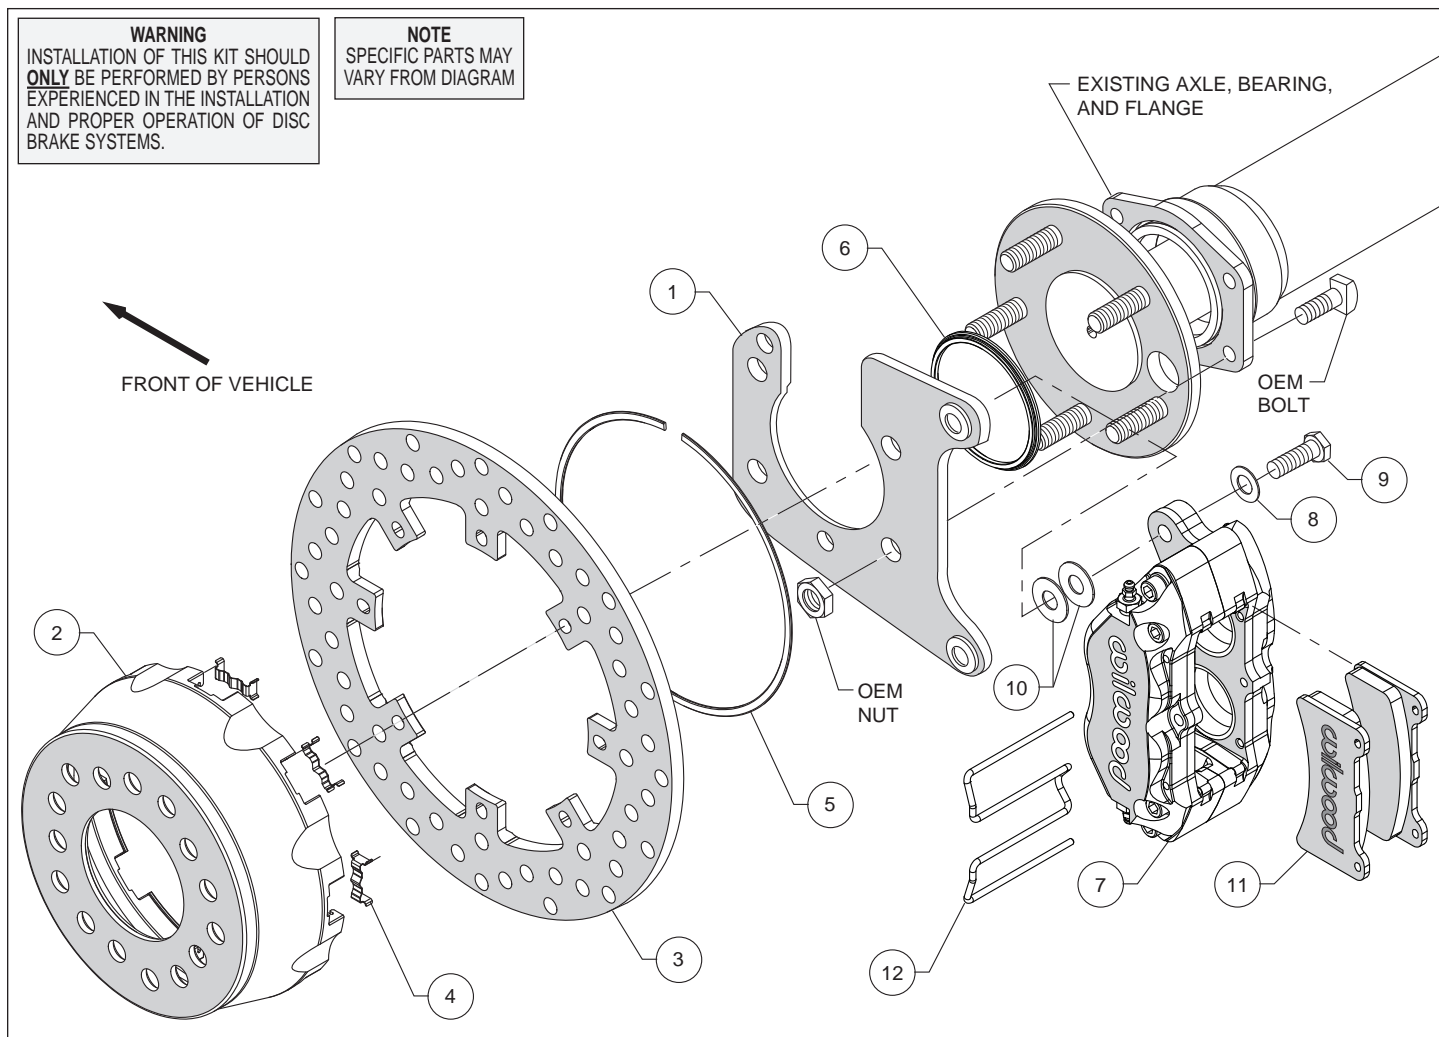
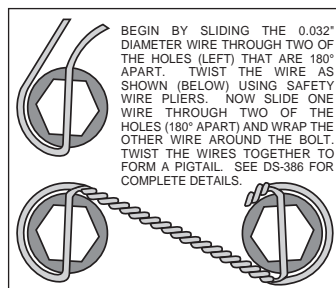
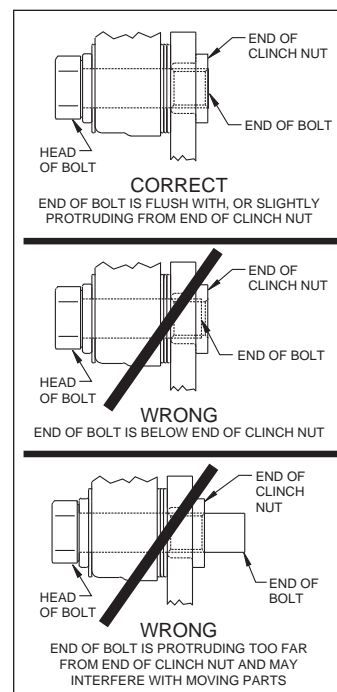

Figure 1. Typical Installation Configuration
Figure 4. Safety Wire Diagram
Figure 5. Clinch Nut Engagement Diagram
**Assembly Instructions** (numbers in parenthesis refer to the parts list and Figure 1 on the preceding pages): **CAUTION:** All mounting bolts must fully engage clinch nuts. Be sure to check that all bolts are either flush or protruding through flanged side of clinch nut after shimming, Figure 5.
- Install the caliper mounting bracket (1), with the slot for the axle pointing upward, to the housing flange using the OEM bolts and nuts, as shown in Figure 1 and Photo 1. Ensure that the heads of the clinch nuts are facing outboard, Photo 1. Apply red *Loctite*® 271 to the OEM bolt threads and torque to OEM specifications.
- Insert the dynamic mount wear plates (4) into the slots in the hat (2) making sure the tabs snap in place, Photo 2. Orient the rotor (3) as shown in Figure 1 and Photo 3, with the flush mount tab side facing the hat. Attach the rotor to the hat using snap ring (5) by pushing down on the rotor and installing the ring into the groove in the hat, as shown in Photo 4. Ensure that the ring is fully engaged in the groove.
- Slide the rotor registration adapter (6) onto the axle register on the axle flange with the smaller O.D. facing toward the hat (2), Photo 5. Align the correct hole pattern in the hat with the axle stud pattern and slide the hat/rotor assembly onto the axle hub. **NOTE:** The hat must fit flush against the axle flange or excessive rotor run out may result. Install three lug nuts (finger tight) to keep the hat/rotor in place while continuing with the installation. **NOTE:** Some OEM and aftermarket axles come with stud sizes larger than 0.50" diameter. Verify stud size, and if necessary, have a qualified machine shop drill the hats to the correct size.
- NOTE:** Please reference the caution statement at the beginning of the assembly instructions. Mount one caliper (7) onto the mounting bracket (1) using bolts (9) and washers (8), as shown in Figure 1. Initially place two .035" thick shims (10) on each bolt between the caliper and the bracket, Photo 6. Temporarily tighten the mounting bolts and view the rotor (3) through the top opening of caliper. The rotor should be centered in the caliper, Photo 7. If not, adjust the caliper by adding or subtracting shims between the bracket and the caliper. Always use the same amount of shims on each of the two mounting bolts. **NOTE:** The end of each bolt must be flush with or slightly protruding from the head of the clinch nut. If necessary, place spare shims between washer and caliper mounting ear to achieve the proper clinch nut
engagement, as shown in Figure 5. Once the caliper alignment and clinch nut engagement are correct, remove the bolts one at a time, apply red *Loctite*® 271 to the threads, and torque to 40 ft-lb. For an added measure of security, the bolts may be safety wired using standard 0.032 inch diameter stainless steel safety wire as shown in Figure 4. Please refer to Wilwood's data sheet DS-386 (available at [www.wilwood.com/Pdf/DataSheets/ds386.pdf](http://www.wilwood.com/Pdf/DataSheets/ds386.pdf)) for complete safety wire installation instructions. Repeat this procedure for the second caliper.